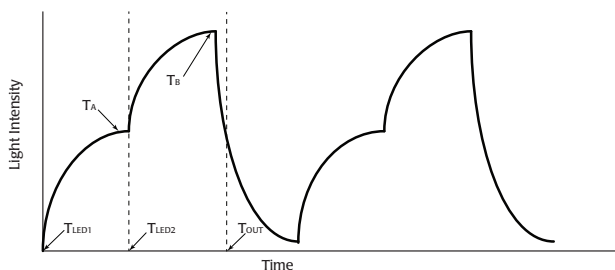

Fig. 7—A single emission dye, data is captured at two different times.
- Single Emission Dyes—Data is captured using a single photo sensor at different times (Fig. 7).